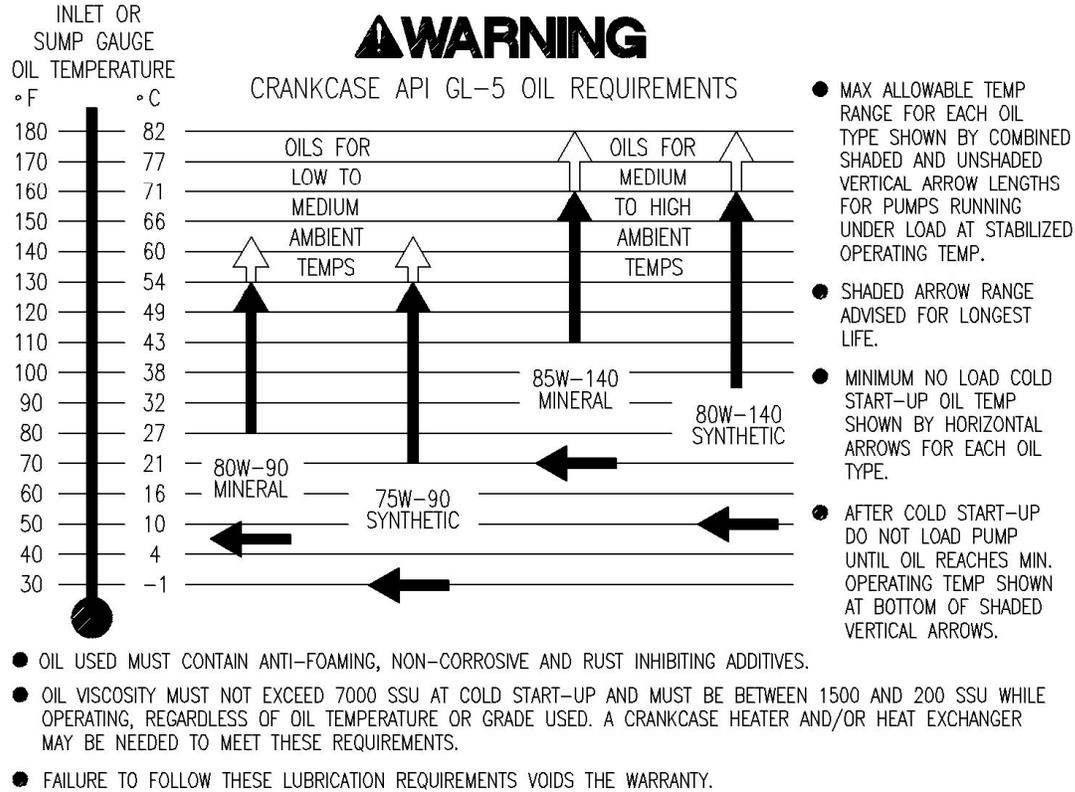

FIGURE 3-1 Lubricant Recommendations
FIGURE 3-1 Indicates API-GL5 oil grades recommended for use in the pump power end and the speed reducer lube system, crankcase operating temperature ranges, and minimum startup temperatures for each listed grade of oil for various ambient temperature ranges.
1. Fill the lube oil reservoir with the recommended grade of oil. See FIGURE 3-1 above for Lubricant Recommendations.
4. Start the engine at the lowest possible RPM and triplex pump at zero (0) pressure. Make sure that all roller bearings, crossheads, knuckle joints, and crankshaft bearings have proper lubrication.
2. Periodically monitor lube oil operating pressure and temperature. The maximum oil operating temperature depends on a particular grade of oil used in the pump lube system. (See FIGURE 3-1, Page 16).